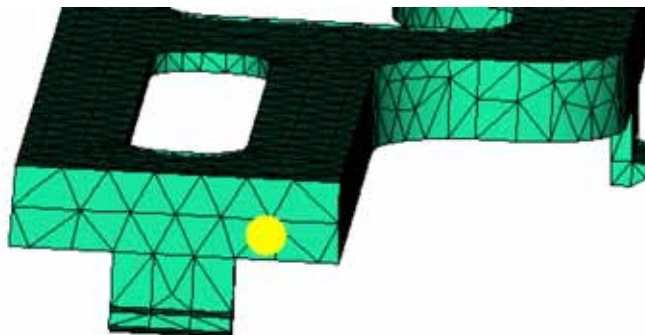

Figure 18: Snap cover injection location
The next task requires you to create a runner system for a single-cavity tool. You will do this by setting an injection location on the model, and then using the Runner System Wizard to create the runner with a diameter of 4 mm and a gate orifice of 1.5 mm. The injection location should be set in the position indicated by the yellow cone in Figure 18.
2. Zoom in as necessary to see the injection location as shown in Figure 18.
4. Set the injection location as shown in Figure 18.